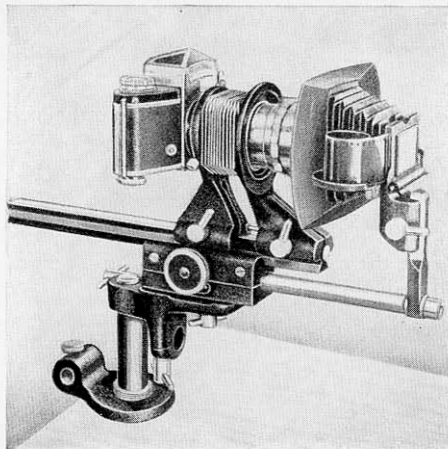

Fig. 26: Transparency copy equipment with repro attachment 1: fixed to column foot
Bellows attachment (black), order No. 155.10, and repro stand, order No. 155.01, Figs. 26 and 27, extension increase by bellows of bellows attachment.
The transparency copy equipment has to be fixed to the focusing slide (6) by means of the coupling rod (12/3), as shown in Figs. 26 and 27. For this purpose, you will find a round hole on the front surface of the sliding track, into which you will be able to push the coupling rod (12/3). Tighten the little knob (6/8), and the transparency copy equipment is fastened securely to the focusing slide. The transparency copy equipment (with bellows attachment) is generally chosen for 35 mm. objects in the horizontal position in connection with the repro attachment 1 (without columns), see Figs. 26 and 27. You will find it most convenient to do this kind of work sitting down and looking straight into the penta prism of the EXAKTA Varex in viewing direction (of course, the reflex finder, too, can be used for focusing).
Focusing is accomplished optically, based on the reflex image of the EXAKTA Varex, and mechanically by actuating the cog-wheel mechanism of the focusing slide (6). Figs. 26 and 27 show the normal horizontal working position with repro attachment 1 (without columns).